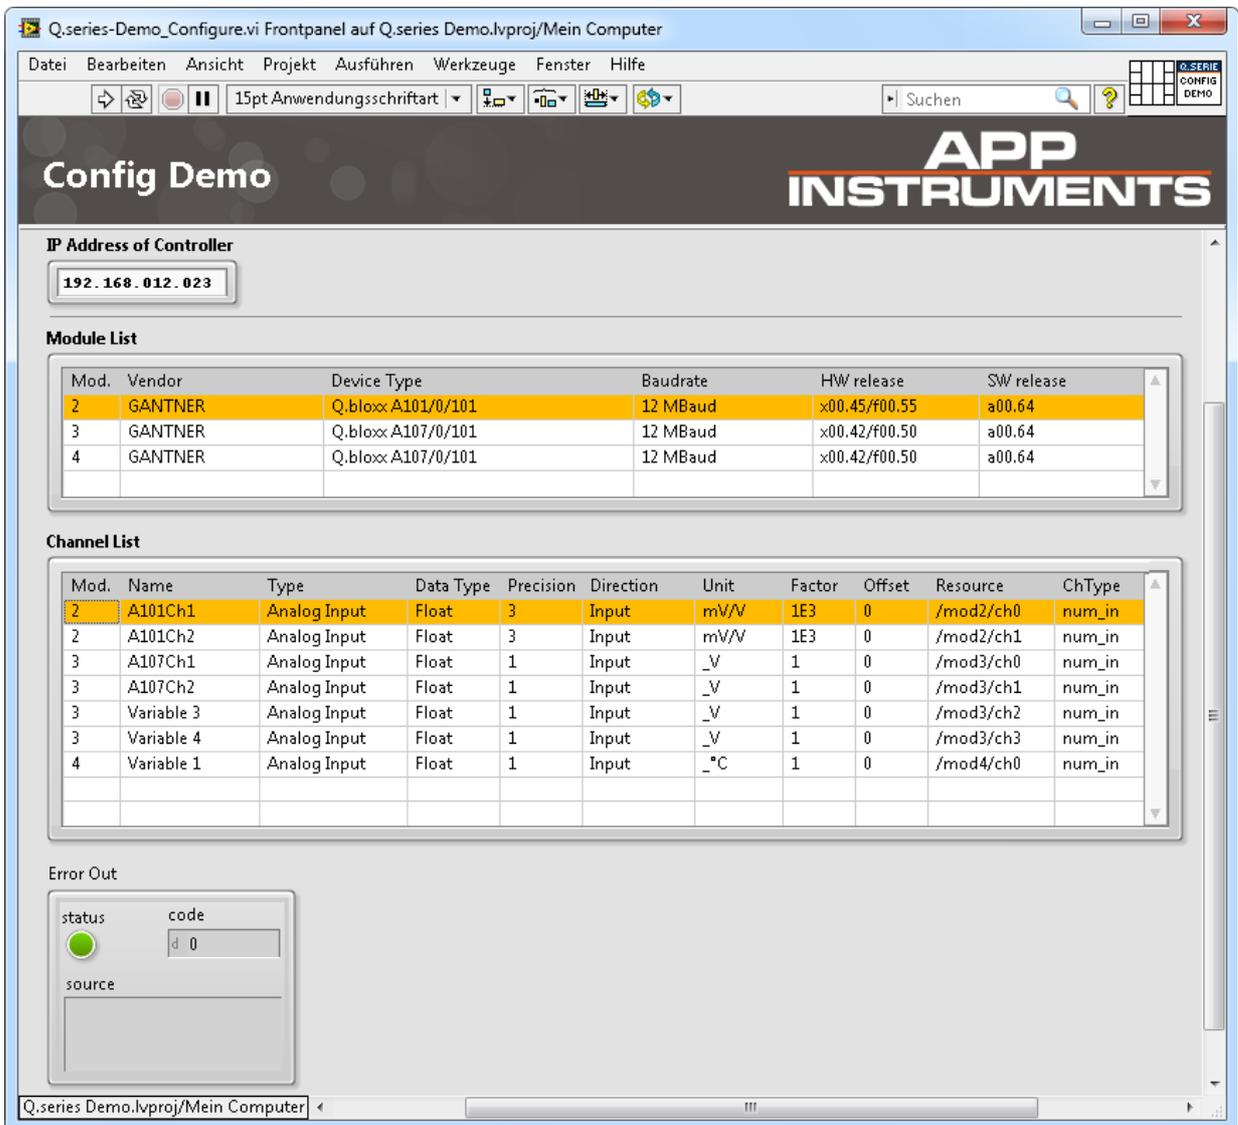

Abb. 6-17 Demo VI for configuration.
The example Q.series-Demo\_Configure.vi shows the procedure. Enter the IP address of your Q.bridge (**IP Address of Controller**) and start the VI with a click on  (Fig. 6-17). The connected modules are shown in the upper field and the variables configured in the modules in the lower field.
2. Specify the channels to be displayed at **Channels**. The specification must use the same name as is shown in the **Resource** column in the example Q.series-Demo\_Configure.vi; refer to Fig. 6-17.